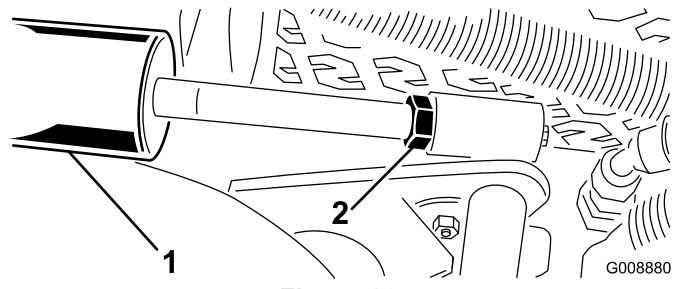

**Figure 28**
3. Start the engine, raise the lift arms, and check to ensure that the clearance between the wear strap on the top of the rear cutting unit wear bar and the bumper strap is 0.51 to 2.54 mm (0.02 to 0.10 inches) (Figure 28).